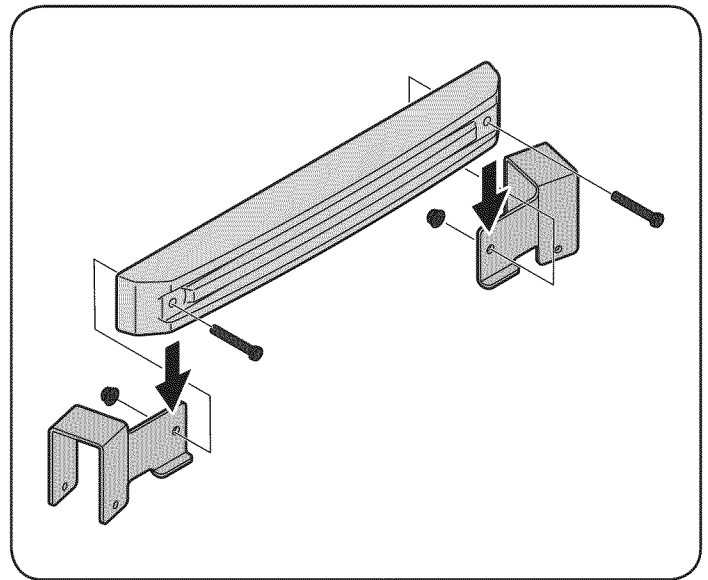

Figure 26
1. Attach the left mounting bracket and the right mounting bracket to the weight bar using two 2-1/2" screws (710-0859), and 3/8" flange nuts (712-04065) from hardware pack 689-00325. See Figure 26.